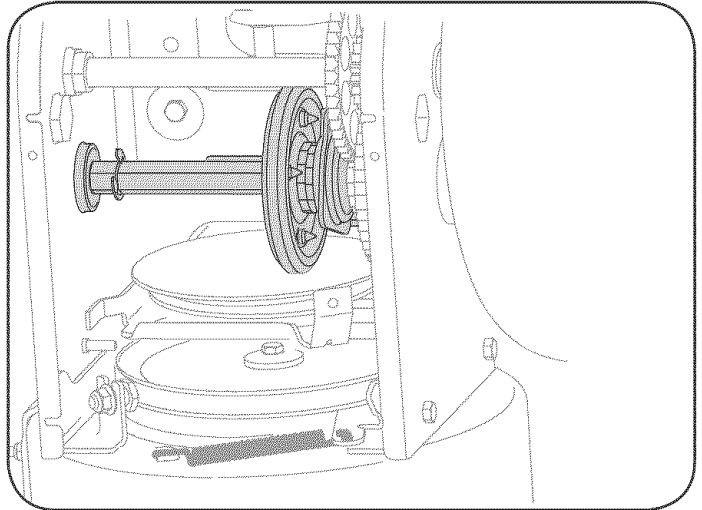

Figure 3
2. Apply a light coating of an all-weather multi-purpose grease to the hex shaft. See Figure 3.